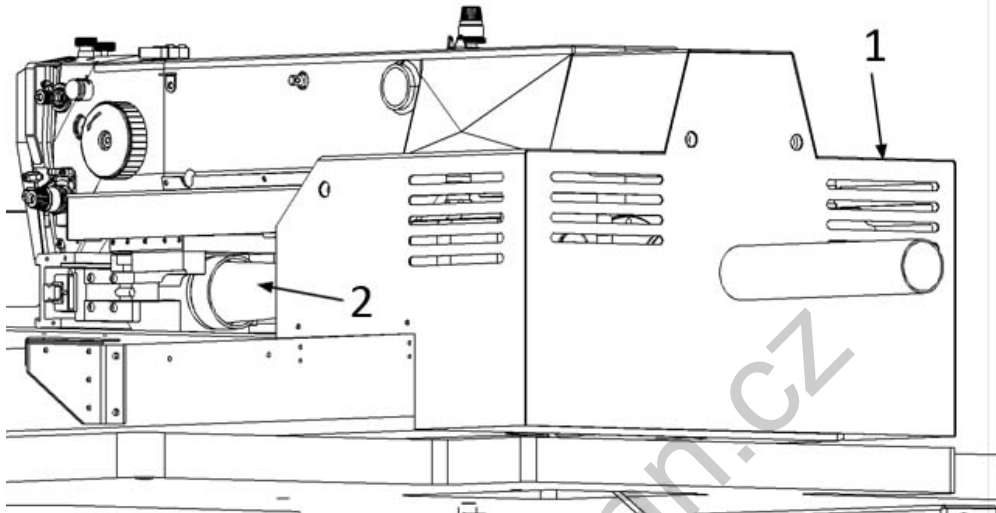
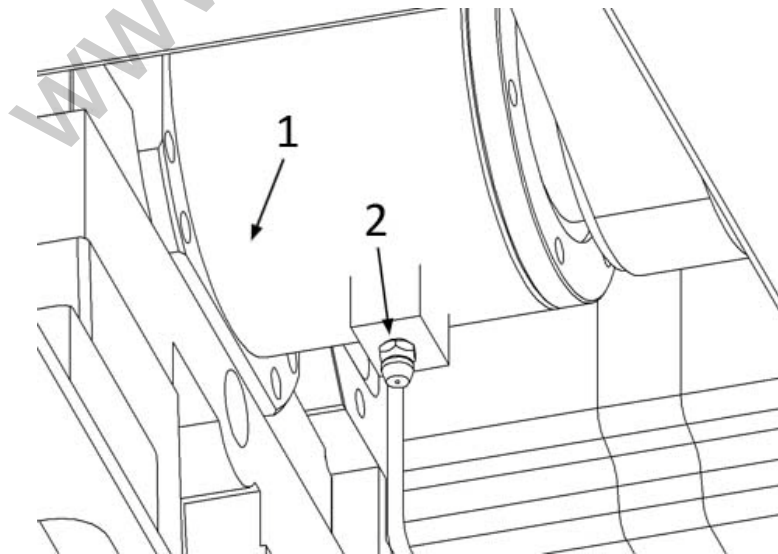

Fig. 36
Fig. 37
Unscrew the screws of the back cover (1) (two screws from back side and 3 screws on each side) and remove the cover (Fig.36).
Now you have access to lubricating head (2) on the flange of the bearing (1), see Fig. 37. Then apply the lubricant on the bearings by means of manual press. Lubrication is recommended to be performed at least once per year according to frequency of machine operation. Besides the bearings, it is recommended to lubricate also the ball screw shaft under the telescopic cover (2), see Fig. 36.